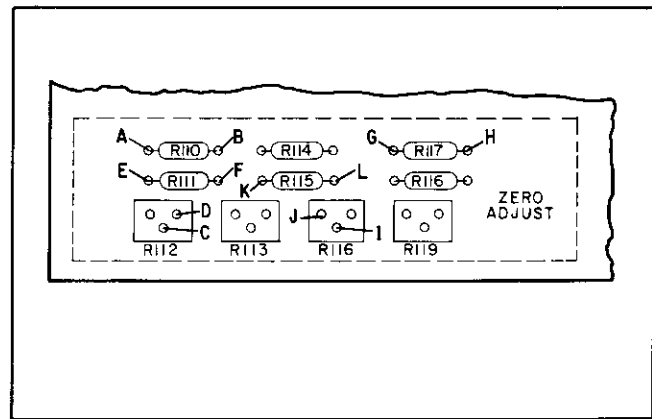

Figure 5-9. Zero Adjust Section of Main Circuit Board
- c. Connect decade resistance box between pads in zero adjust section of A1 main circuit board that are marked "A" and "B" in Figure 5-9. (These pads are for R110).
- b. Solder a jumper between pads in zero adjust section of A1 main circuit board that are marked "C" and "D" in Figure 5-9.
- c. Connect decade resistance box between pads marked "E" and "F" in Figure 5-9. (These pads are for resistor R111).
- c. Connect decade resistance box between pads in zero adjust section of A1 main circuit board that are marked "G" and "H" in Figure 5-9. (These pads are for R117.)
- b. Solder a jumper between pads in zero adjust section of A1 main circuit board that are marked "I" and "J" in Figure 5-9.
- c. Connect decade resistance box between pads marked "K" and "L" in Figure 5-9. (These pads are for R115.)